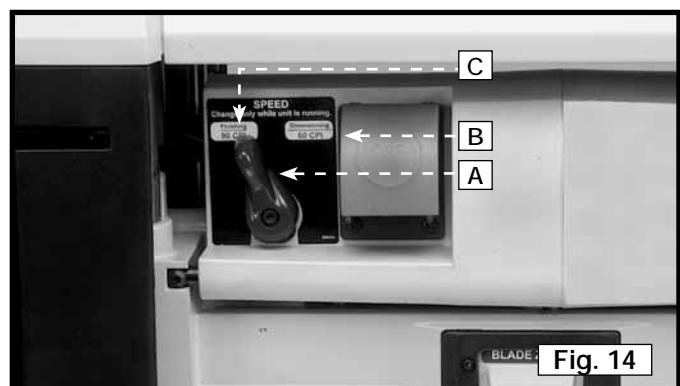

Fig. 14
1. The 22-580 is a two-speed planer. The speed control knob (A) is shown in Fig. 14.
2. Use the "Dimensioning" speed (B) Fig. 14 with 60 cuts per inch to size the board.
3. Use the "Finishing" speed (C) Fig. 14 with 90 cuts per inch to finish your workpiece.